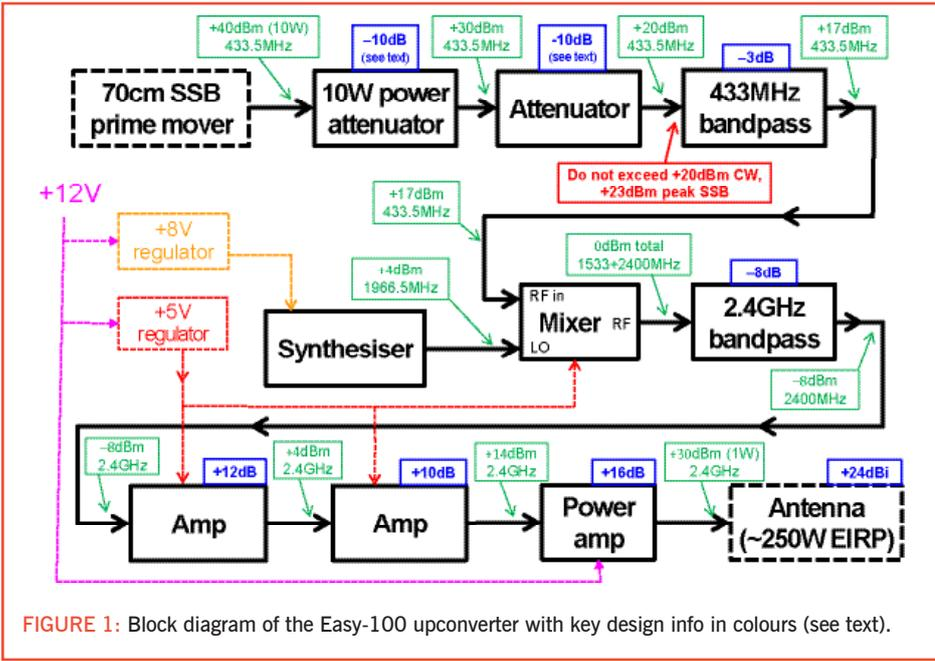

FIGURE 1: Block diagram of the Easy-100 upconverter with key design info in colours (see text).
**Figure 1** is a full block diagram of the Easy-100. It is a conventional upconverter design, made from off-the-shelf modules. I decided to use 70cm as the drive band because ready-made, stable filters are available for 433MHz (and 2.4GHz) that solve most of the filtering issues well-enough and, more importantly, don't need any setting up. Conveniently, both bands are widely used for
As denoted in the block diagram, Figure 1, the Easy-100 needs up to about 10W of SSB drive at 70cm. The input power requirement is very easily changed, eg to suit an FT-817 or similar, simply by changing the input attenuators. I suggest you use a 10dB power (first) attenuator rated for at least 10W, then a lower power attenuator to set the drive level. **Table 2** shows a selection of recommended attenuators for various input powers. Just make sure you don't exceed +20dBm CW or +23dBm PEP SSB at the input to the 433MHz filter.